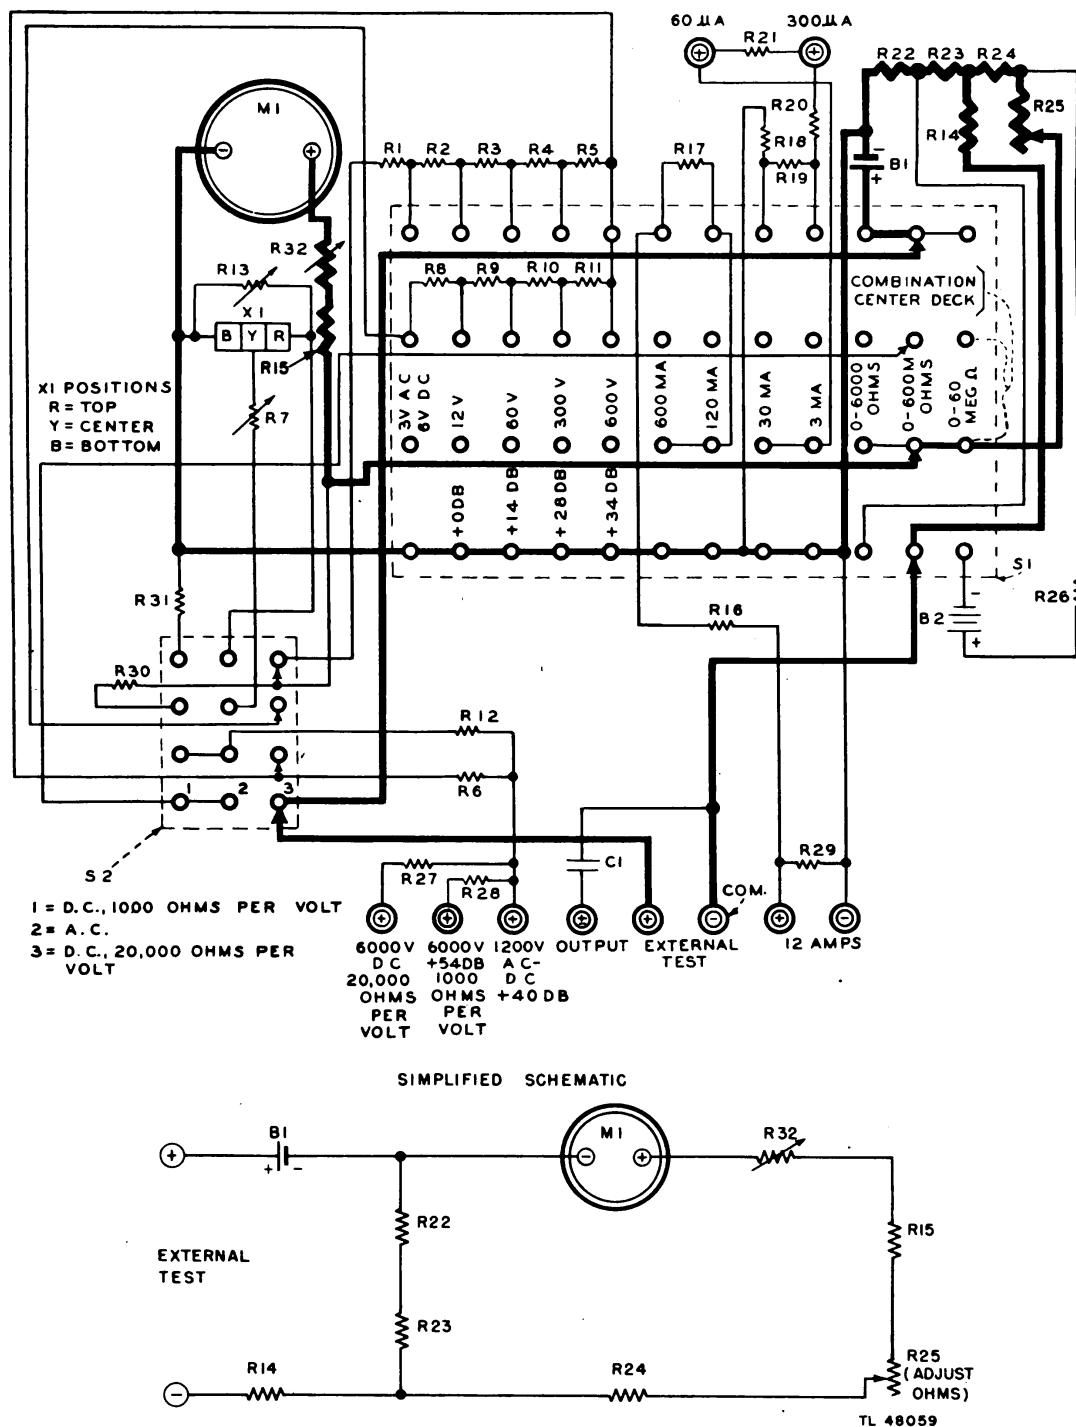

Figure 5. Ohmmeter circuit using 600,000 ohms range.
**e. Ohmmeter.** A simplified schematic diagram of the ohmmeter circuit for the lower ranges is shown in figure 5. The high ohmmeter range (0-60 megohms) is essentially the same except for the use of a 22.5-volt battery and an additional series resistor.